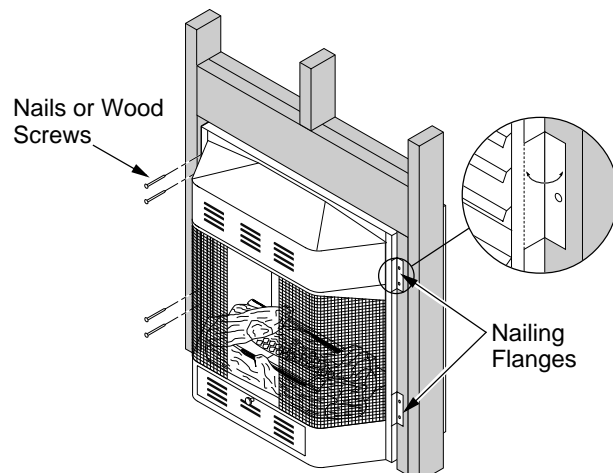

Figure 8 - Attaching Fireplace to Wall Studs
7. Bend four nailing flanges on outer casing with pliers (see Figure 8, page 9).